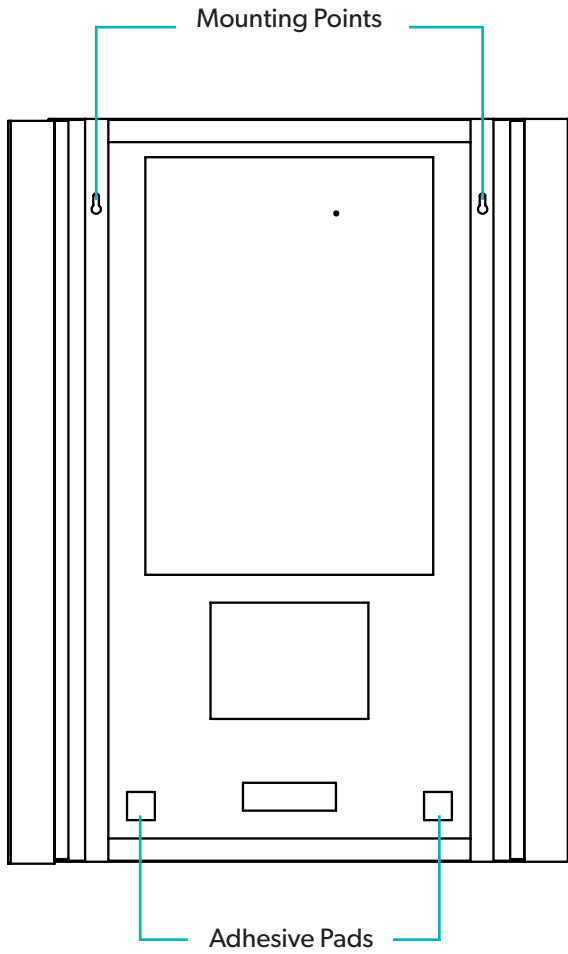

Fig 2. - Mounting points & adhesive pads
2. Carefully mark the position of the mirror using a soft pencil ensuring it is level. Remove the mirror and mark the mounting points, *see Fig. 2*. **Please ensure that all marked mounting points accurately match up with the fixing points on the mirror.**
7. Remove the backing paper from the adhesive pads, *see Fig. 2*.